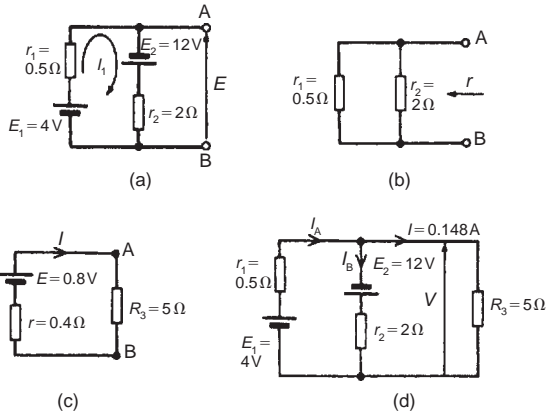

Figure 15.44
- (i) The 5 Ω resistance is removed from the circuit as shown in Fig. 15.44(a)
- (iii) Removing the sources of e.m.f. gives the circuit shown in Fig. 15.44(b), from which resistance
- (iv) The equivalent Thévenin's circuit is shown in Fig. 15.44(c), from which, current
From Fig. 15.44(d),
Also from Fig. 15.44(d),
[Check, from Fig. 15.44(d), $I_A = I_B + I$, correct to 2 significant figures by Kirchhoff's current law.]